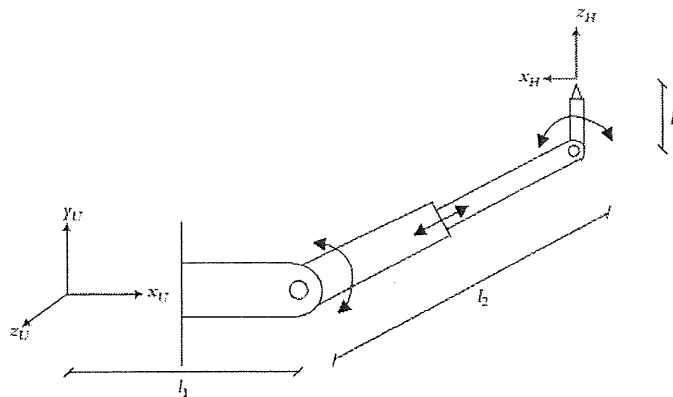

Figure 1
(5) end effectors commonly found in the industry.
c) A special spraying robot has been designed, as shown in Figure 1.